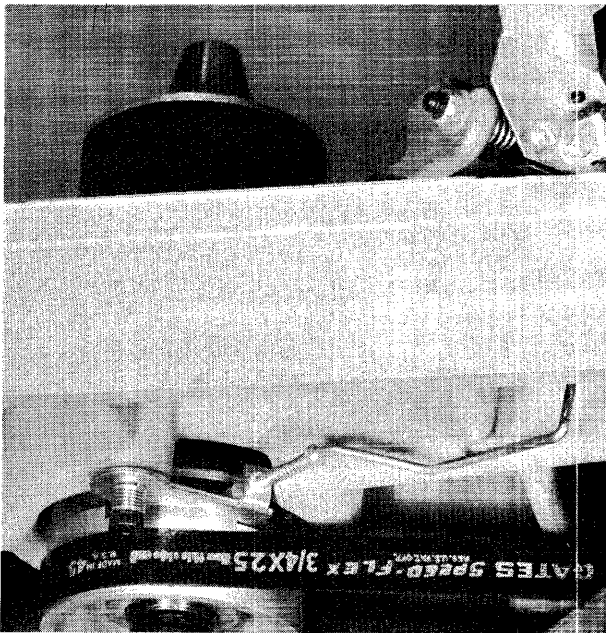

Figure 5-20. Spindle Linkage Shaft
- d. If locking mechanism does not operate properly, adjust spindle lock by forming mechanical linkage as required (see Figure 5-20).